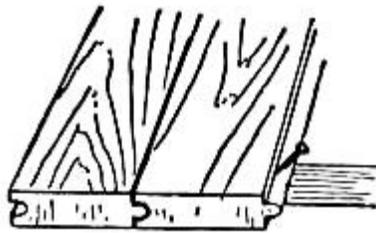

FIG. 32.—Blind-nailing.
**Blind-nailing** is a form of toe-nailing used on tongue and grooved boards in which the heads of the nails are concealed below the surface, as shown in Fig. 32.